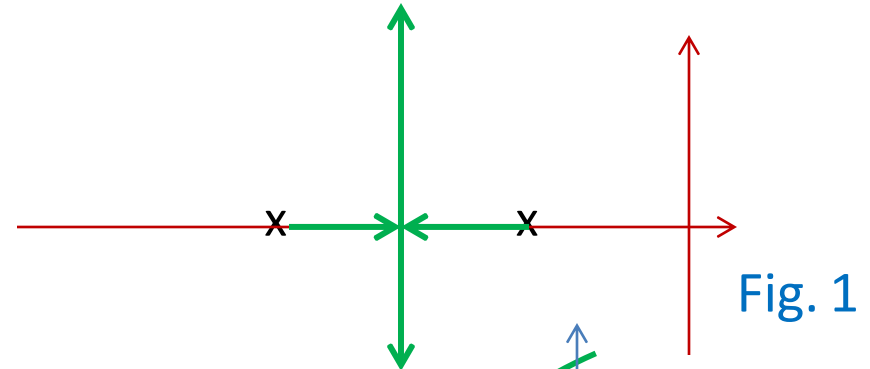

Fig. 1
Looking at Figs. 1, 2 & 3 we see that addition of zero has
□ We observe that addition of a pole affects stability of a CL system, as is seen from Fig.1 & 2